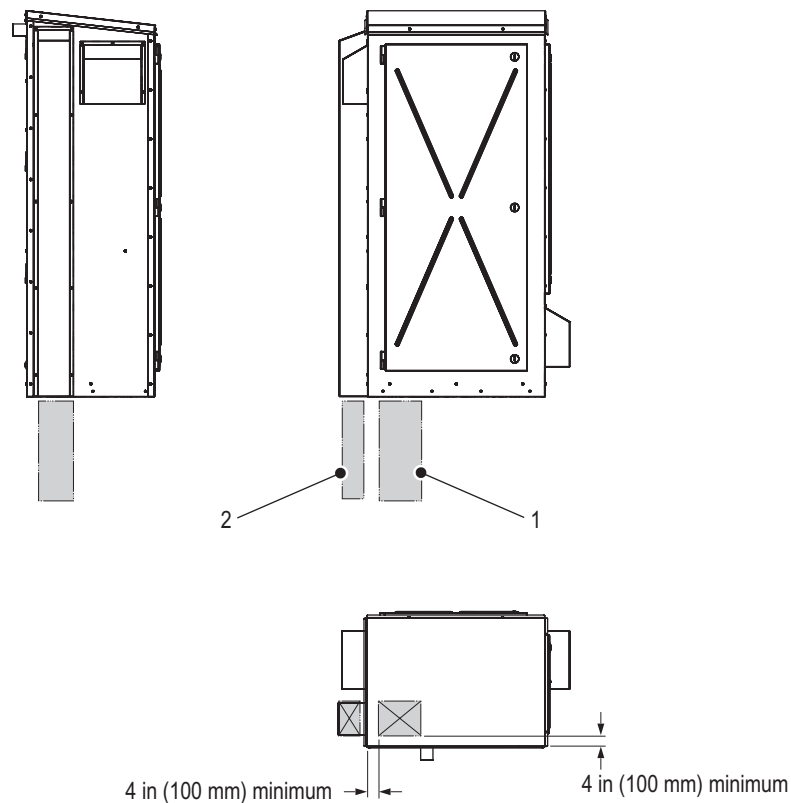

Figure 9: Pipe Chase Location
It is recommended that all external drain lines and all water supply lines are routed through suitable pipe chases. Refer to Figure 9 for the general locations of the pipe chases.
6. (Recommended) Install suitably sized pipe chases for the drain lines and water supply line – refer to Figure 9 on page 25 for general locations.
4. (Recommended) Cut suitably sized openings in the roof and install pipe chases – refer to Figure 9 on page 25 for general locations.